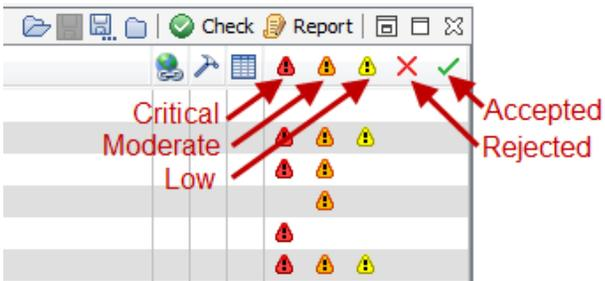

Figure 46 Filtering results
(5) Filter results by focusing on **Critical** Issues (see Figure 46).